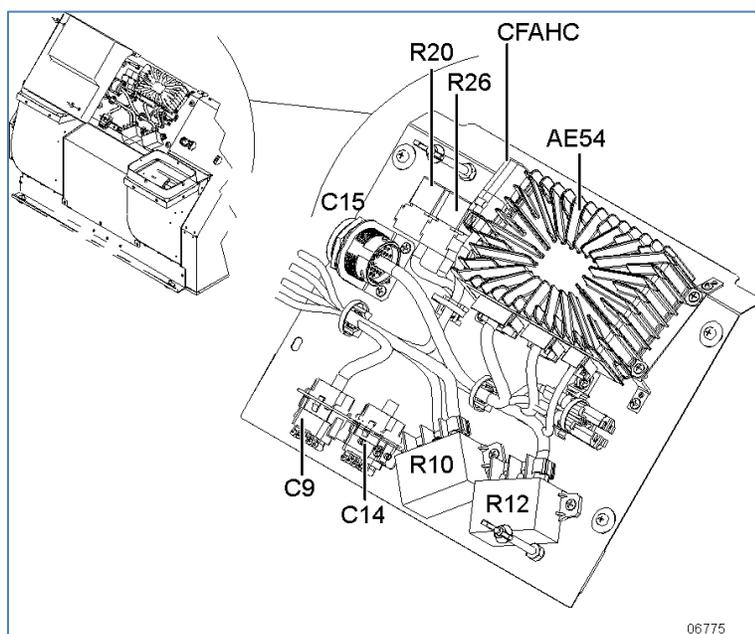
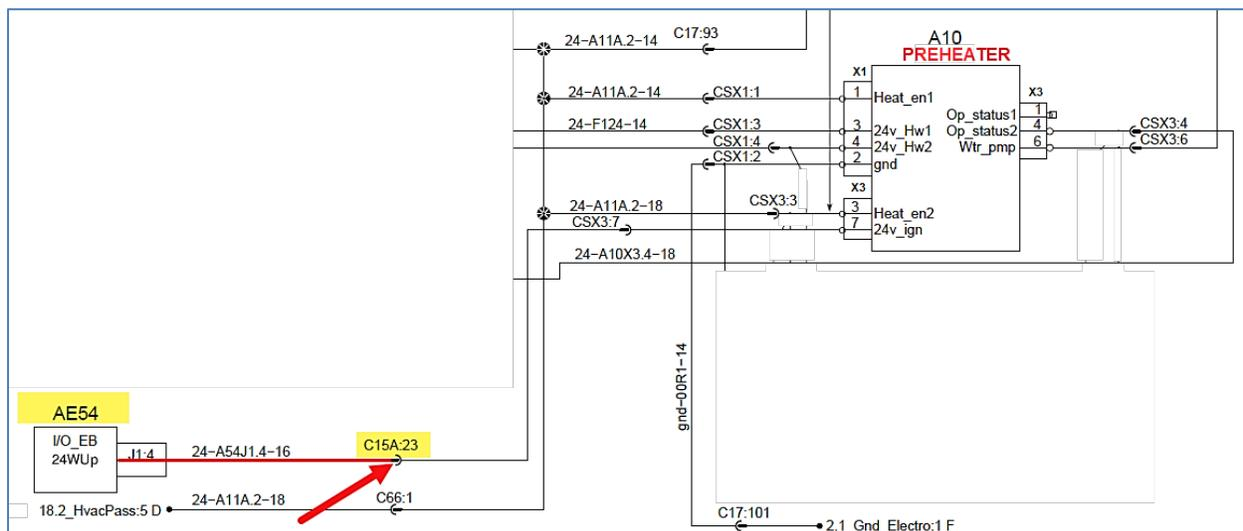

FIGURE 2: HVAC PANEL IN THE EVAPORATOR COMPARTMENT
FIGURE 3
1. Inside the evaporator compartment: install the relay base 561183 on the HVAC panel (Figure 2). To do so, first, drill a 1/8 hole through the panel. Secure the relay base using screw 500799.
2. Inside the evaporator compartment: extract circuit A54J1.4 from connector C15A (identified C15 on the following image) pin 23 cavity (Figure 2 & Figure 3).